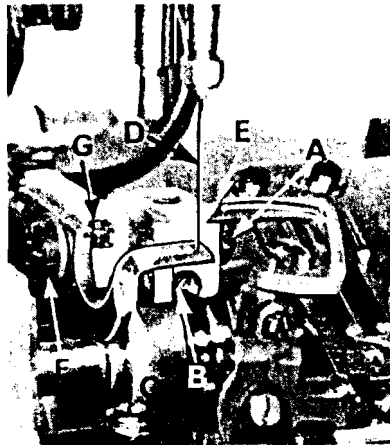

Fig. 10
At extreme forward end of travel, rear needle guard (C, Fig. 10) must be set horizontally not to contact rear of needle (D) with a maximum clearance of .005 inch (.127mm). Guard should be set as low as possible, yet have its vertical face approach approximately 3/64 inch (1.2mm) of needle point until point of looper (E), moving to the left, is even with the needle. To move needle guard forward or backward, loosen screw (F), move needle guard as required, and retighten screw. To raise or lower needle guard, loosen screw (F), and turn screw (G) clockwise to lower needle guard or counterclockwise to raise it. Retighten screw (F) after guard is properly set.